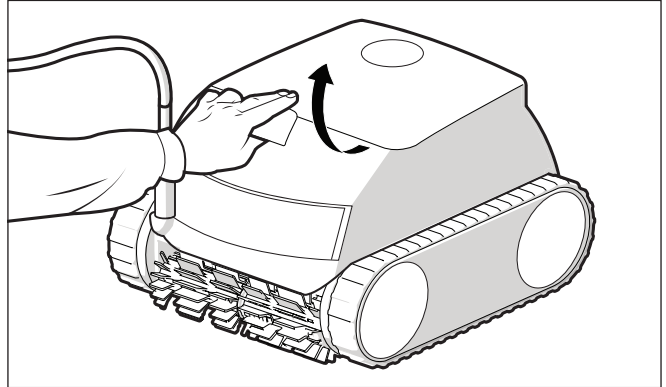

**Figure 10. Untangle the power cable**
4. Remove the cleaner from the pool and untangle all kinks and coils in the power cable. Start at the cleaner head. Lay the cable in the sun to loosen any tangling memory (Figure 10).